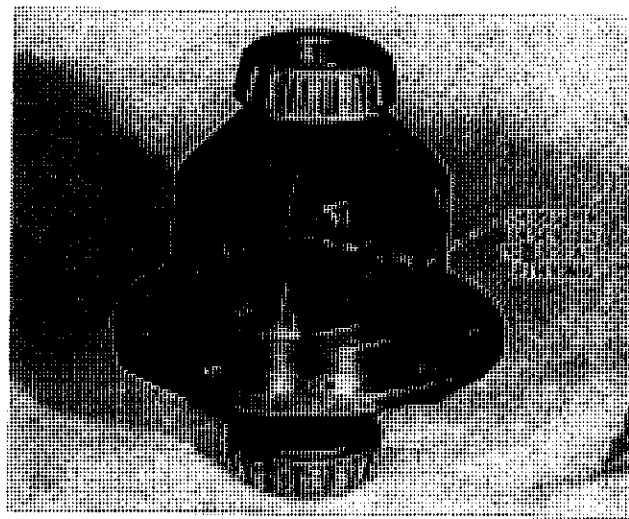

Fig. 16. Location of Differential Gears for Assembly in differential housing.
4. The sun and planet gears are now assembled into the differential casing, the cross pin being used to locate the two planet gears temporarily in the position shown in Fig. 16. Subsequently the planet gears are rotated around the sun wheels through 90 degrees, the cross pin being withdrawn to allow the gears to assume their normal fitted position, and the cross pin is finally fitted and secured by its locking pin, this pin being located by "centre popping."